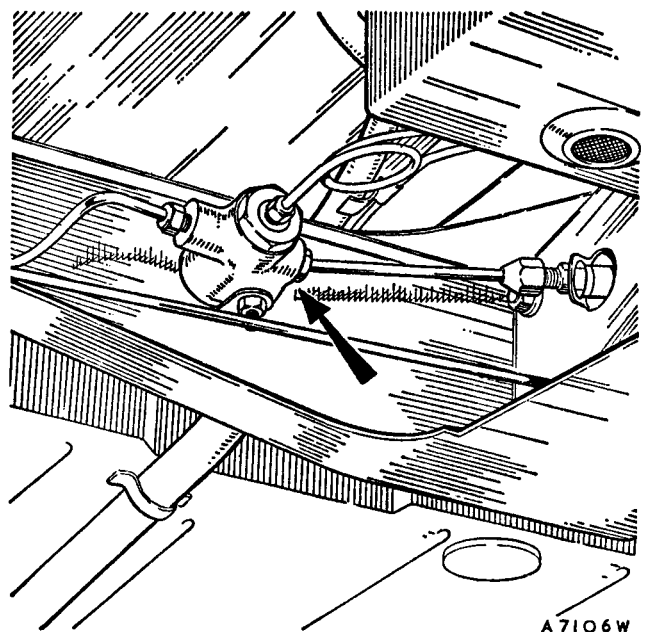

Fig. M.6
2. Depress the pad retaining spring and withdraw the split pins (Fig. M.6).